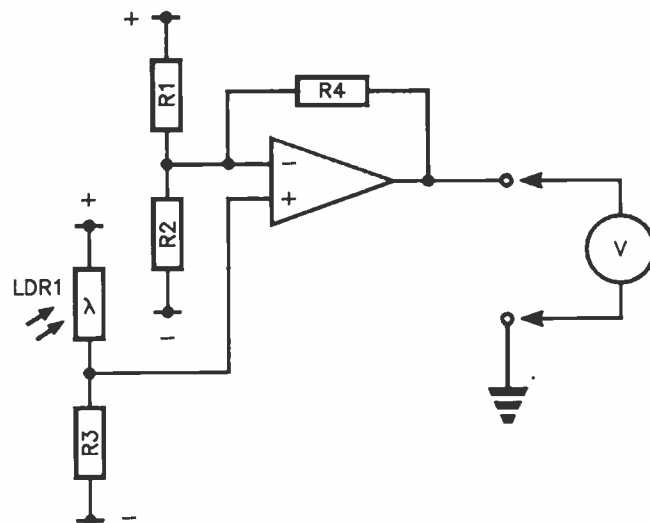

Figure 9. Here's the Figure 8 circuit re-drawn with *negative feedback* this time.
First, we'll take the positive feedback out of Figure 8, and add a negative feedback resistor instead, which is shown in Figure 9 here. Let's make a few assumptions about this circuit: We'll say that R1 and R2 are 20k, and that R4 is 10k.
called an *inverting amplifier*, because it inverts whatever the input is. The circuit in Figure 9, by the way, is called a *non-inverting amplifier*.
Now the gain of the amplifier in Figure 12 is -1. As an aside, the 'gain' of an amplifier is defined as being the number that you have to multiply the input voltage by to get the output voltage. The gain of the amplifier in Figure 9 is two (2).